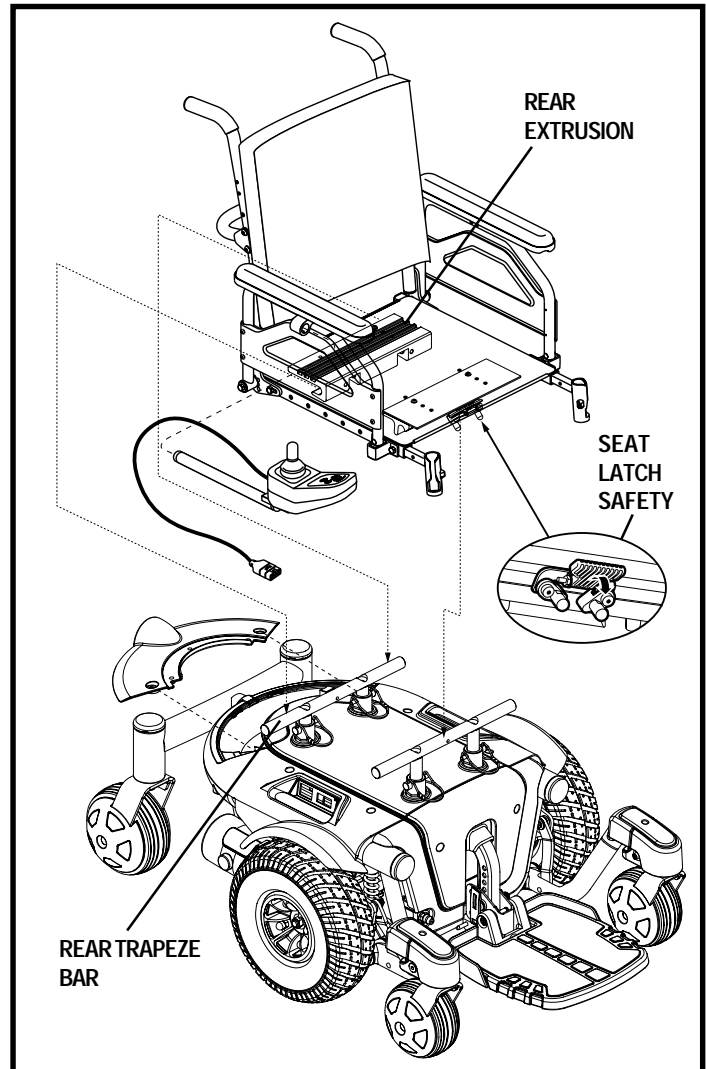

Figure 11. Universal Mounting System (FLIGHT Shown)
It may be necessary to install the seat either prior to initial operation or after transporting your power chair. Most seats are attached to the power base with the Universal Mounting System (UMS). The UMS consists of universal parts that may be attached to any medium-back or high-back seat, regardless of seat width or seat depth. The two main components are aluminum extrusions mounted to the seat base. These extrusions attach to a pair of trapeze bars that are mounted to the power base. See figure 11. If your power chair is equipped with a Synergy Seating System or a Synergy TRU-Balance Power Positioning System, refer to the information provided in separate manuals.
1. Tilt the seat back and slide the rear extrusion onto the rear trapeze bar. See figure 11.
3. Flip the seat latch safety down. See figure 11.